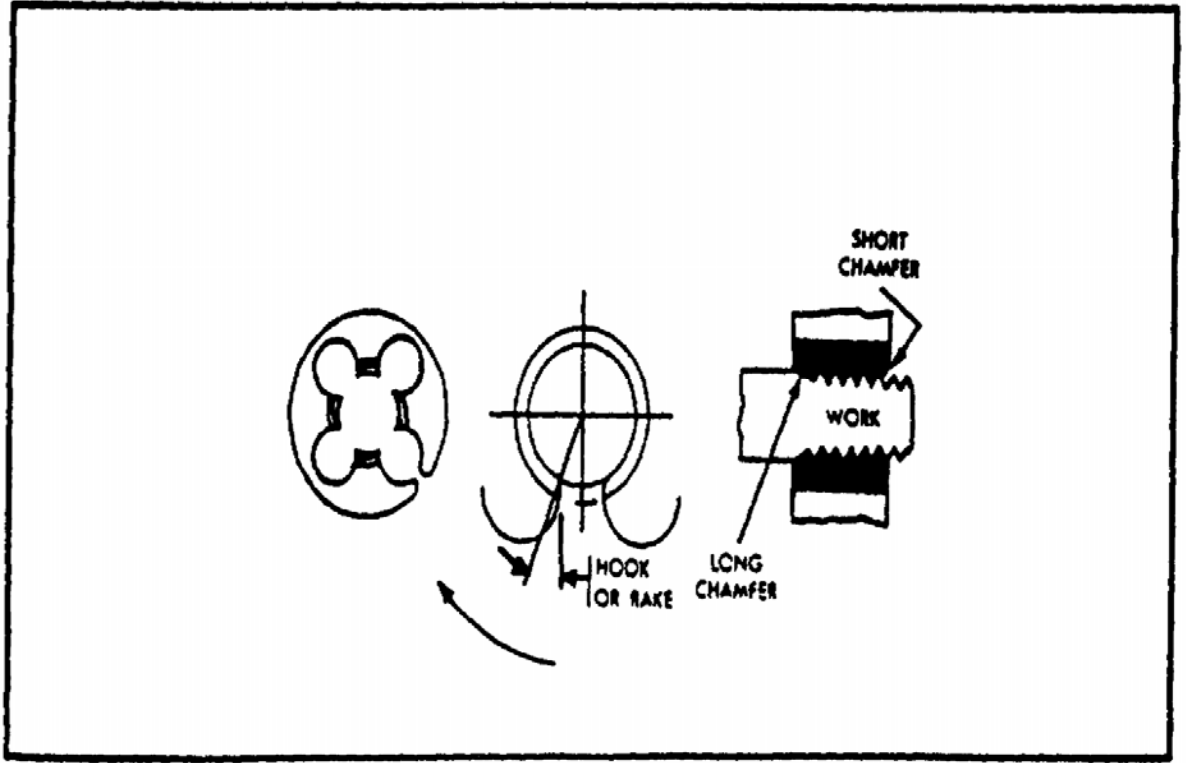
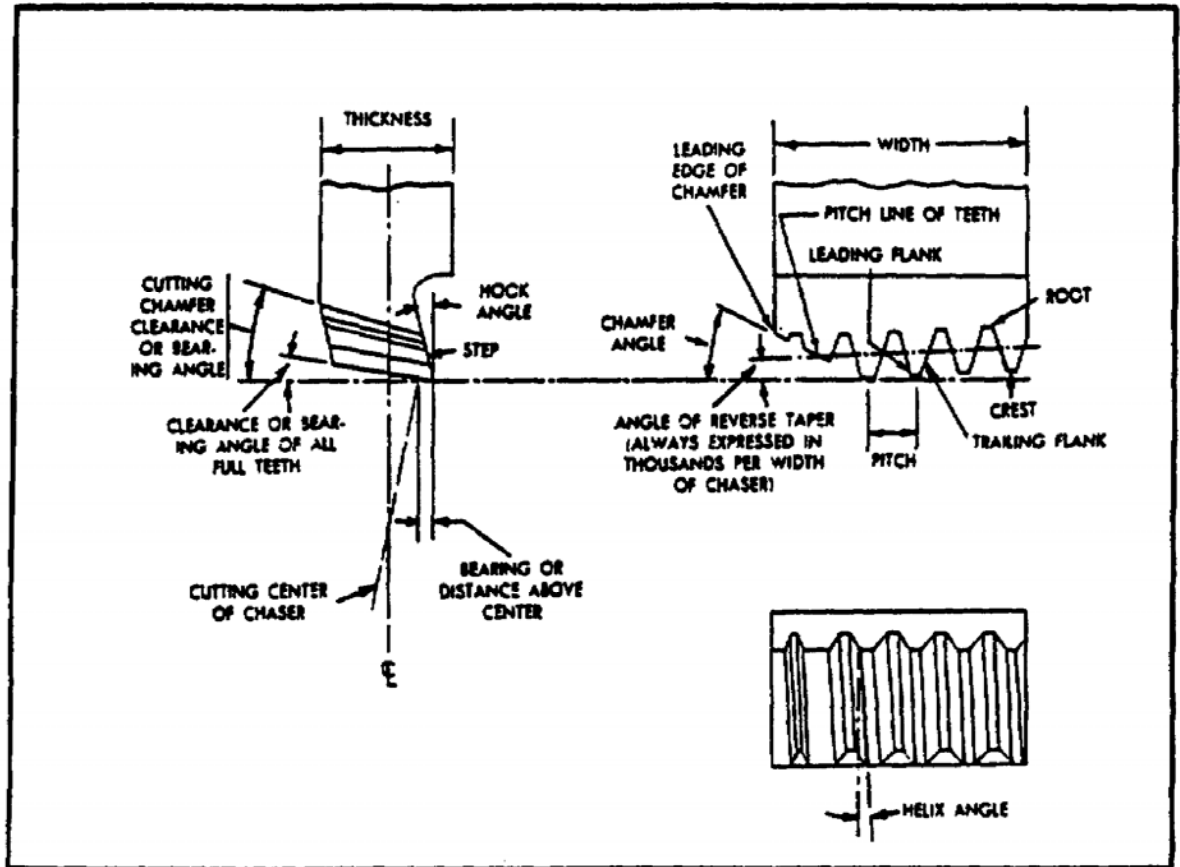

FIGURE 134. DIE CHAMFERS.
FIGURE 135. DIE TERMS.
(3) *Die Design*. A die is a threading tool designed to produce an external thread. It accomplishes this operation without a lead screw. A solid die is basically a nut in which flutes have been machined at right angles to the threads, and which have been hardened to provide cutting edges. The round or button die is actually an adjustable split nut. Two piece dies are machined separately. The number of threads in a die is much less than on a tap and the flutes have more of an exit for the escape of the chips of metal. A short chamfer on a die (figure 134) is used for threading close to a shoulder. A long chamfer is used where two or three incomplete threads can be tolerated on the job to be threaded. Equal chamfering on a die provides balanced cutting. The terms usually used in connection with a die are indicated in figure 135. The standard chamfer for the front face of a straight thread die is 2 to 3 threads, or about 15°. The rear face in some dies is chamfered from 1 to 1 1/2 threads. Standard taper thread dies have a front chamfer of 2 to 3 threads and none at the rear face. Long chamfers mean better threading performance.